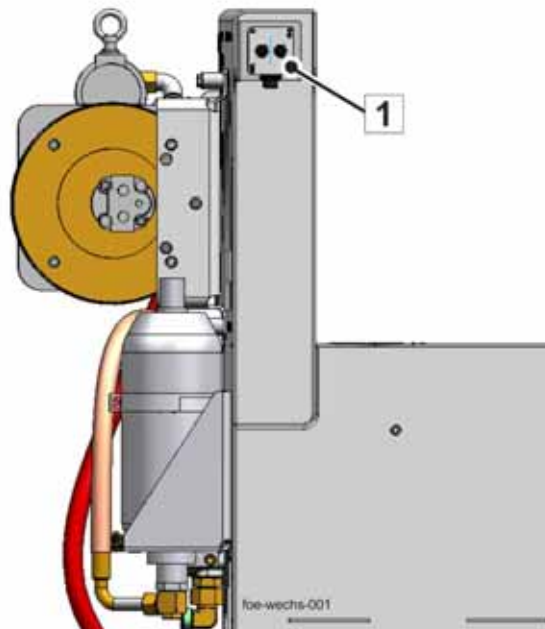

Fig. 83
Control of the concrete pump and the drive motor is transferred to the terminal box for the "Pumping piston change" operating mode (1) (**Fig. 83**), see "**Pumping and differential cylinders, pumping piston change**" on page 451.